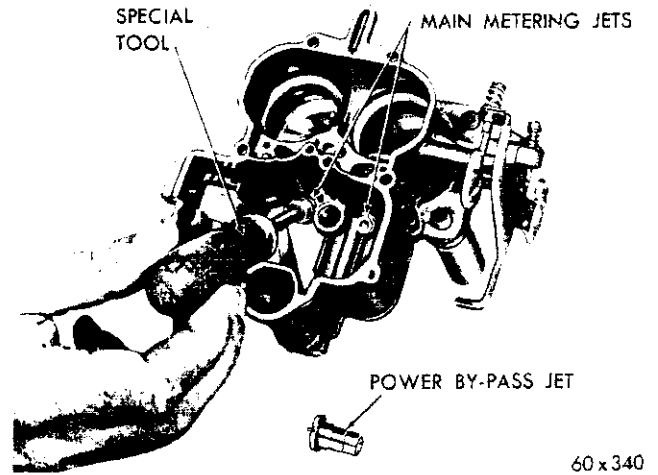

Fig. 11—Removing the Main Metering Jet
(6) Using Tool T109-173, remove the two main metering jets, as shown in Figure 11.
(7) Remove the two air horn screws used to hold the main and throttle bodies together. Separate the throttle and main bodies.
(2) Install the main metering jets in the main body. Tighten securely, using Tool T109-173 (Fig. 11).